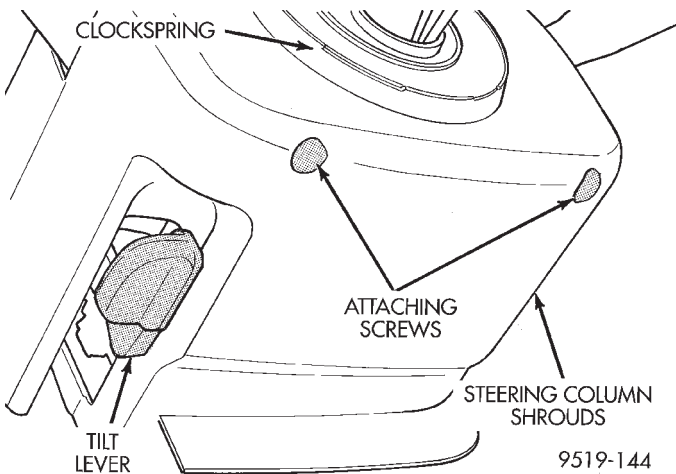

Fig. 15 Steering Column Shroud Attaching Screws
(20) Remove steering wheel assembly from steering column shaft using Puller, Snap-On CJ2001P or an equivalent.
(21) Remove the 2 screws attaching the upper and lower shrouds to the steering column (Fig. 15). First remove upper shroud from steering column, then release tilt lever and tilt steering column to its highest point. Then remove lower shroud from steering column.
(9) Install the upper and lower steering column shrouds onto the lock housing of the steering column assembly. Install and securely tighten the 2 upper to lower steering column shroud to lock housing attaching screws (Fig. 15).